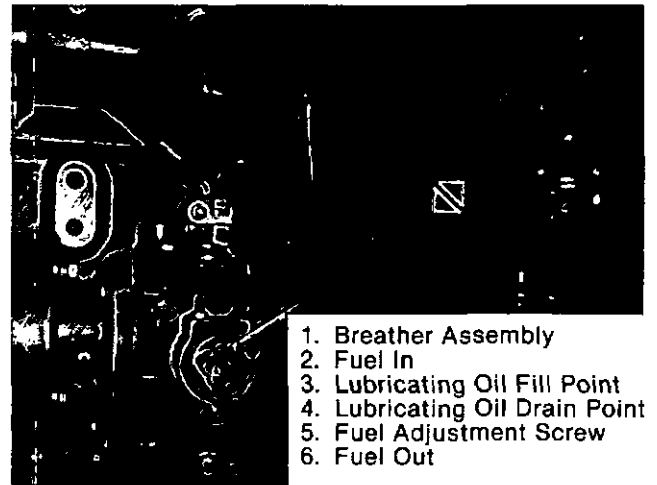
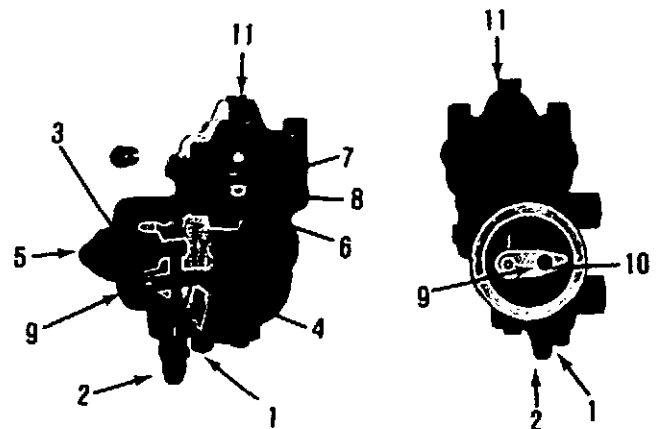

Fig. 16-3 (N11026). Aneroid mounted on an engine.
Fig. 16-4 (F5244). Aneroid cutaway.
1. The fuel from the outlet side of the fuel pump enters the aneroid. The fuel goes through the starting check valve area (5, Fig. 16-4). The aneroid AR-40600 series does not have a starting check valve but it must have a fuel check valve in the supply line.
2. The starting check valve (3) in the aneroid prevents the fuel bypass at the engine starting speeds. For speeds above the starting speed, the fuel pressure makes the check valve open. This lets the fuel flow to the valve port (4) of the shaft (9).
3. The shaft (9) and its bore form the bypass valve. This shaft and bore make a passage or a restriction of the fuel flow like the throttle shaft and sleeve in PT fuel pump.
4. The fuel that goes through the bypass valve is returned (2) to the suction side (inlet fitting) of the PT gear pump. This bypass fuel lowers the fuel pump pressure to the engine, Fig. 16-3.
5. Fuel goes through the aneroid shaft and sleeve when the arm (10) of the lever is against the adjustment screw (1). The amount of the fuel bypass is adjusted by this screw. This screw is in the bottom of the aneroid.
6. The lever arm, attached to the piston (8) by the actuator shaft (6), rotates the shaft. This closes the valve port. The lever is rotated by the action of the air manifold pressure (11) against the piston and the diaphragm (7). This moves the actuator shaft down against the compression spring force, Fig. 16-4.